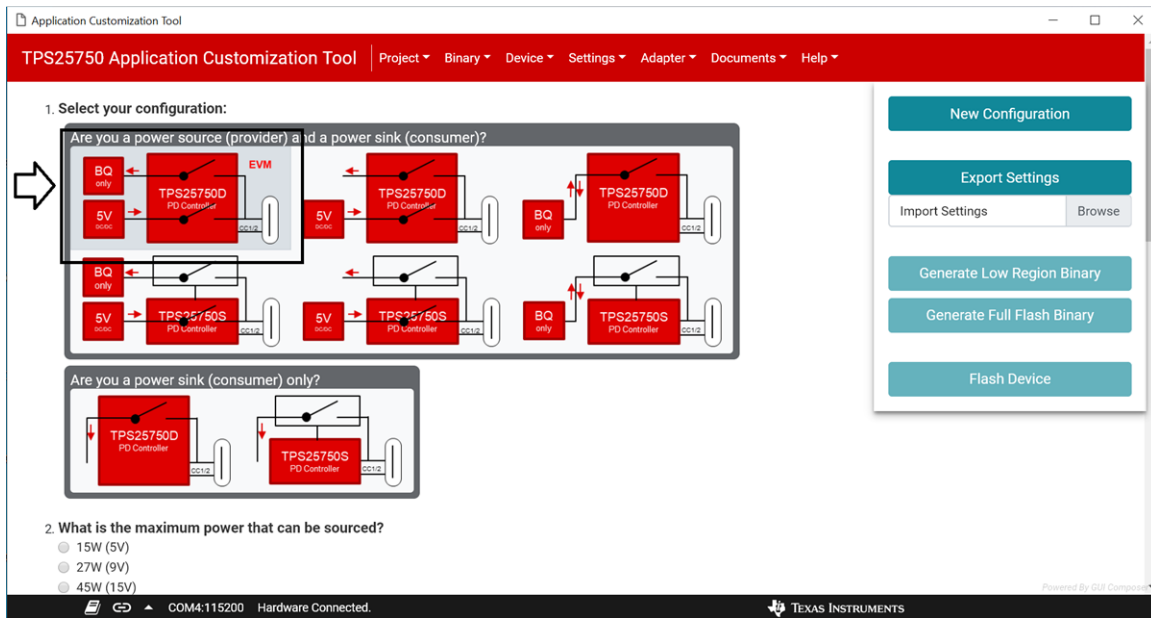

Figure 3-3. Ensure that the option outlined in black is selected
- Question two should also be answered already. Ensure that *100W (20V)* is selected. See Figure 3-3.
- Question three should already be filled out as well. Ensure that *100W (20V)* is selected. See Figure 3-3.
- Question four should also be filled out. Ensure that *Host & Device - Dual Role Port (DRP)* is selected. See Figure 3-3.
- Select *Power source (provider)* as the answer to question five. See Figure 3-3.